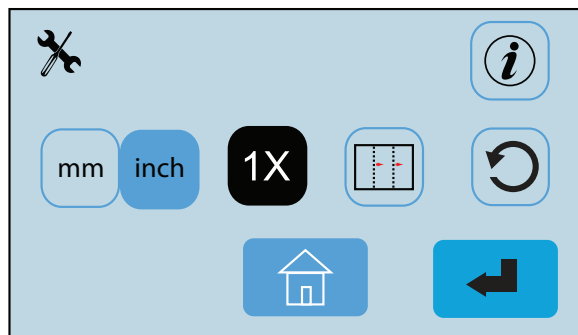
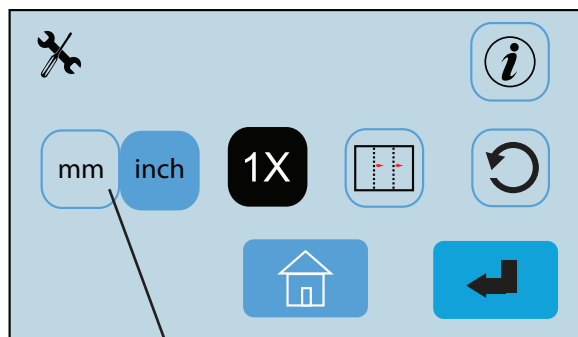

Fig. 36
Fig. 37
1. From the Operator Settings screen (Fig. 36) press the measurement setting icon  (Fig. 37) to change between settings. The icon highlights in blue is the selected setting. By changing this setting the paper sizes will change from standard to metric or vice versa.